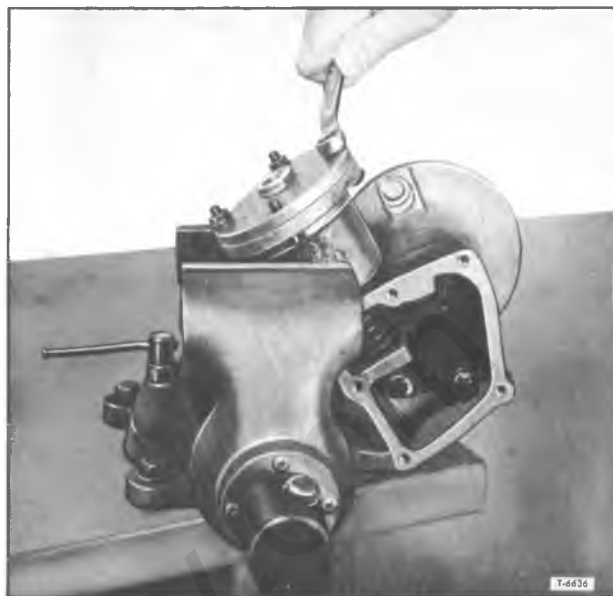

Figure 30—Piston Housing Cover Removal or Installation
2. Position housing in vise (refer to fig. 30).